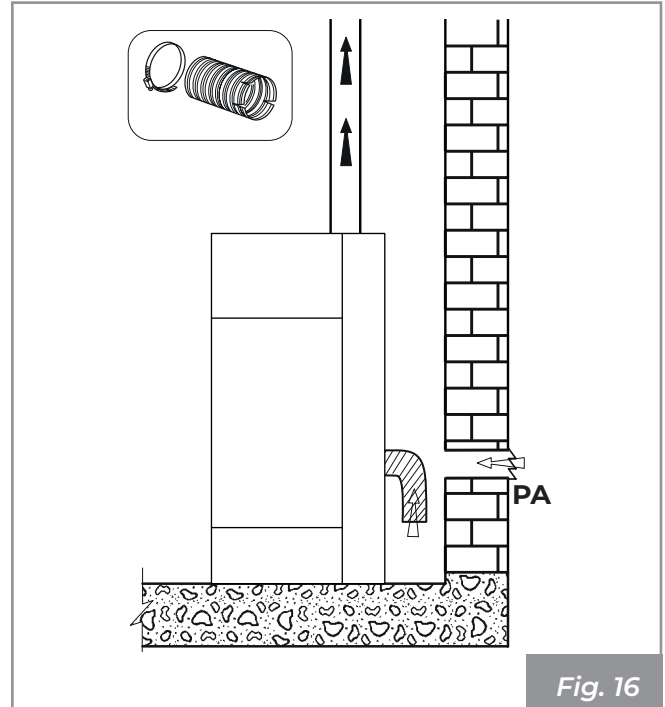

Fig. 16
- it can come from the installation room or suitable adjacent rooms (**Fig. 16**)
Create the air intake on the wall (**Fig. 16 - PA = Air Intake**), and leave the appliance to withdraw the room air, making sure to connect the section of corrugated pipe on the air inlet pipe, if supplied, fixing it with the strap and folding it slightly downwards to prevent any resonance effects.